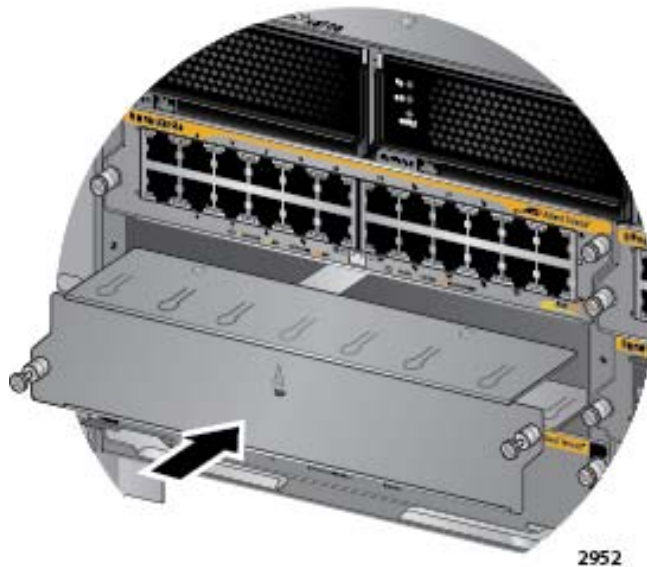

Figure 92. Installing a Blank Slot Cover
1. Position a blank slot cover over an unused slot, as shown in Figure 92.